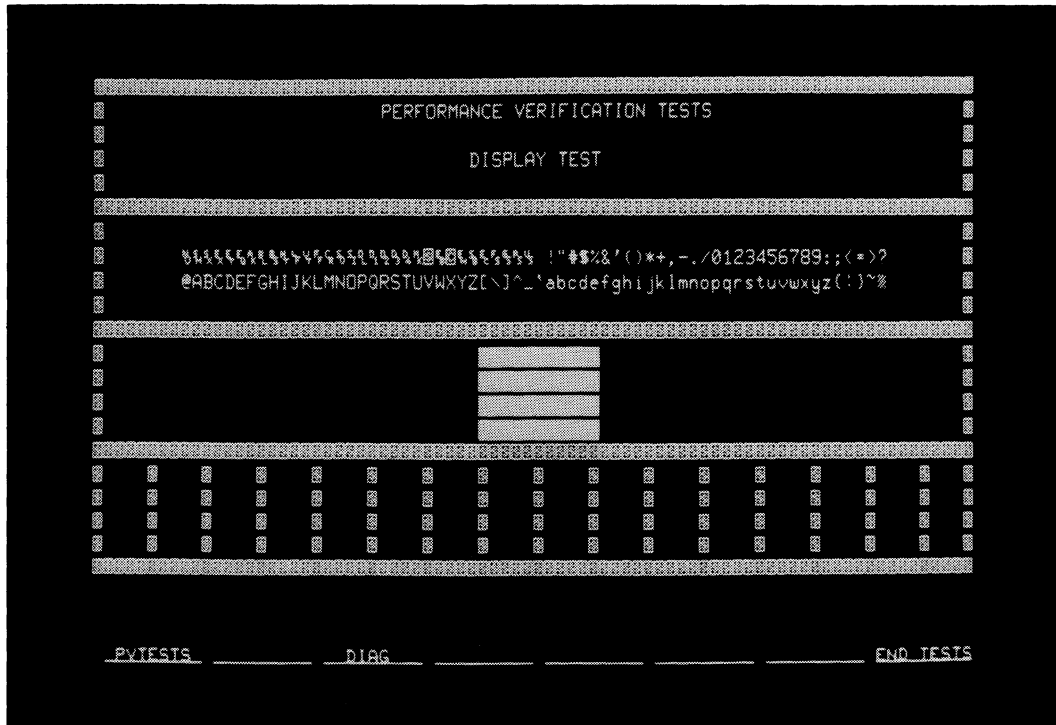

Figure 5-2. Display Test Pattern
- c. Set the main power switch OFF and then ON. Note, the display test pattern should now be on the screen, as shown in figure 5-2.